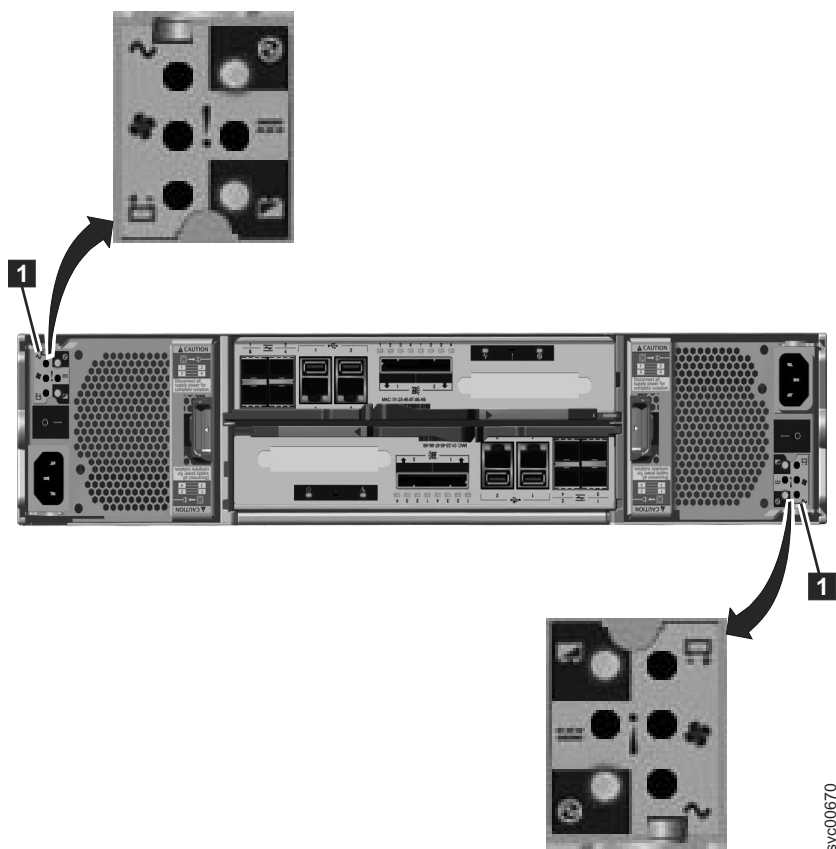

Figure 21. LEDs on the power supply units of the control enclosure
1. Use the state of the ac power failure, power supply OK, fan failure, and dc power failure LEDs on each power supply unit in the enclosure to determine if there is power to the system, or if there are power problems. Figure 21 on page 55 shows the LEDs on the power supply unit for the 2076-112 or 2076-124. The LEDs on the power supply units for the 2076-312 and 2076-324 are similar, but they are not shown here.